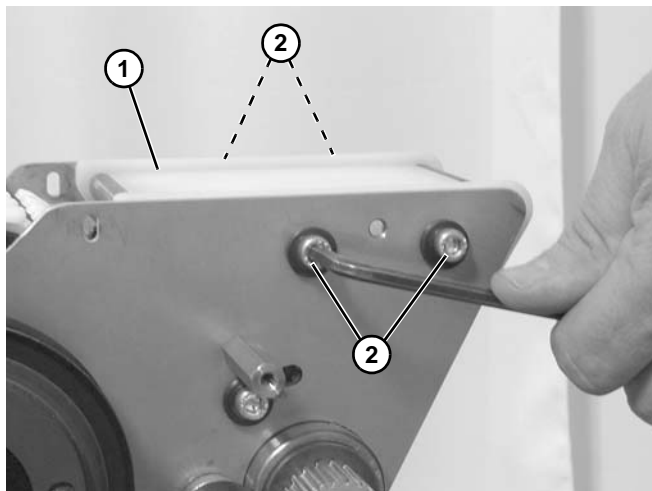

Figure 173
5. Install wear bar assembly (Figure 173, item 1) with four socket head screws (Figure 173, item 2).